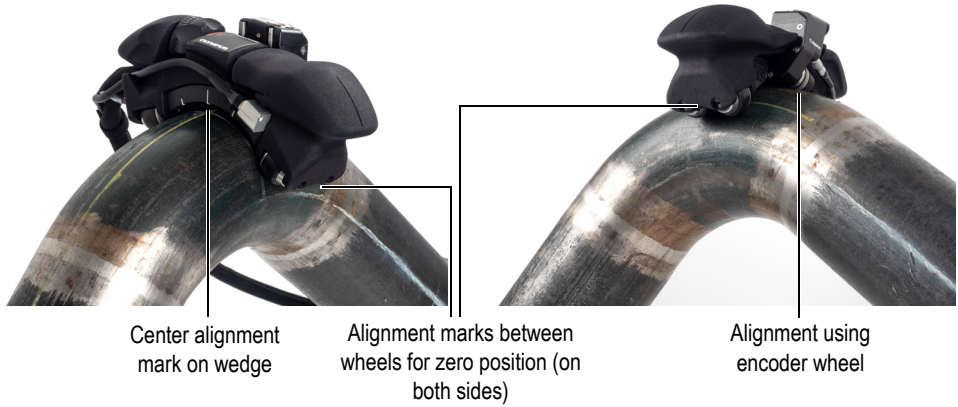

Figure 4-2 Alignment marks
1. Position the FlexoFORM scanner so that it is aligned with the (first) marked scan line and the start (zero) position (see Figure 4-2 on page 35).
If you use an OmniScan X3 series instrument, align the scanner with the first mark, which is located in front of the probe's first element (see Figure 4-3 on page 36). If you use an OmniScan MX2 or an OmniScan SX, align with the center mark (see Figure 4-2 on page 35).